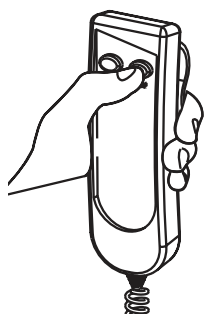

Figure 17-3
9. Press the **DOWN** button until the lift's tower has moved out of the vehicle. [Figure 17-3]